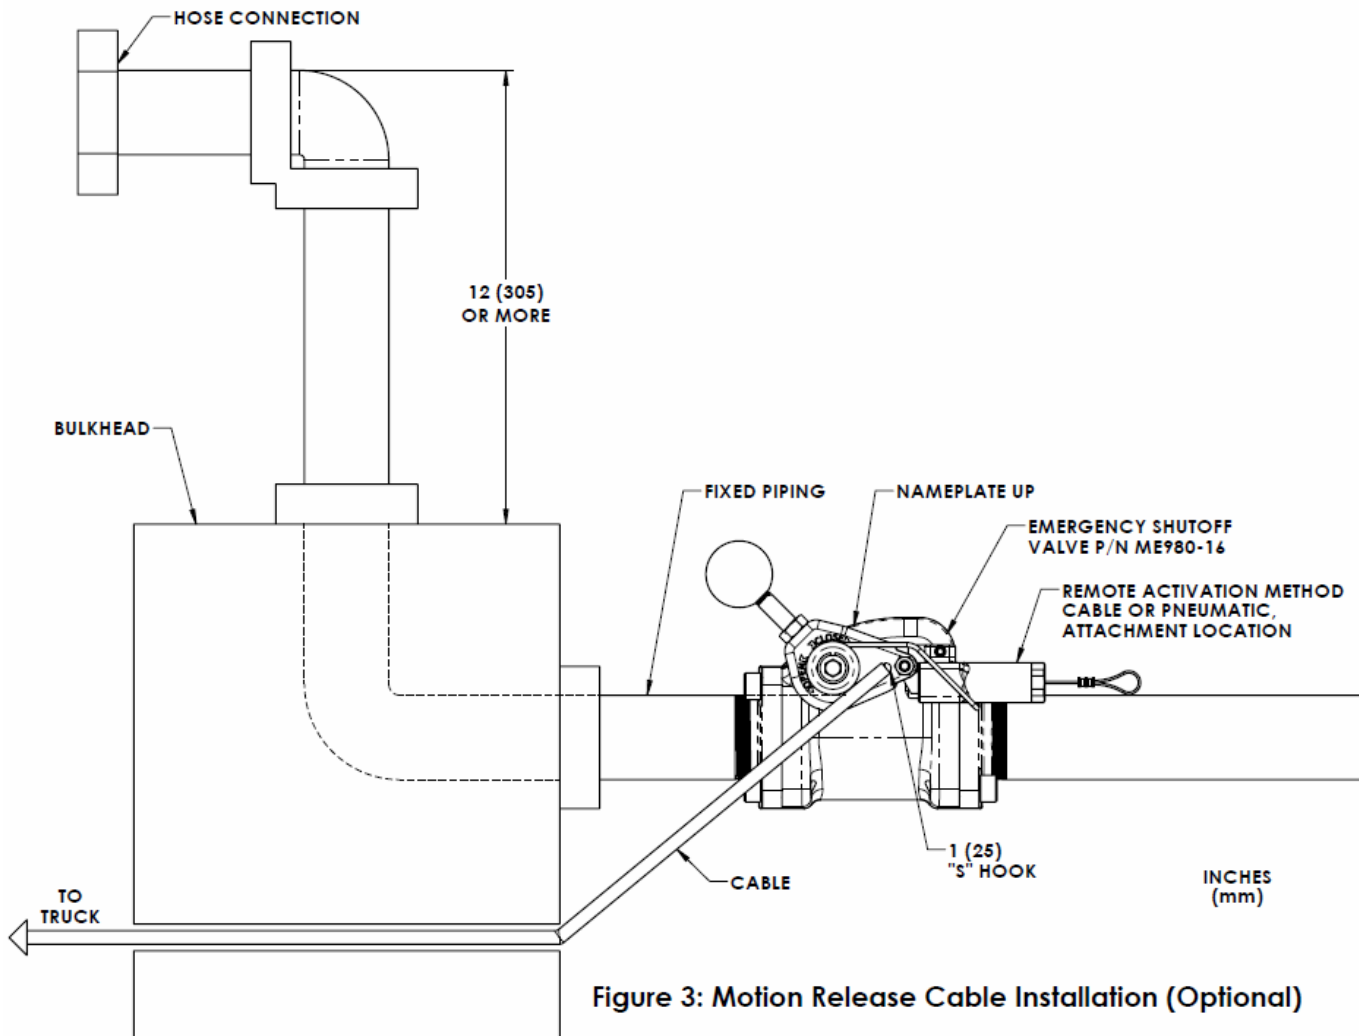

Figure 3: Motion Release Cable Installation (Optional)
1. Connect a suitable release cable such as stainless steel aircraft cable to a standard "S" hook. Attach the "S" hook to the ME980 handle as shown in Figure 3.
2. The cable should run through the bulkhead just below and to the side of the pipe. The cable should be in line with the operating lever, refer to Figure 3.